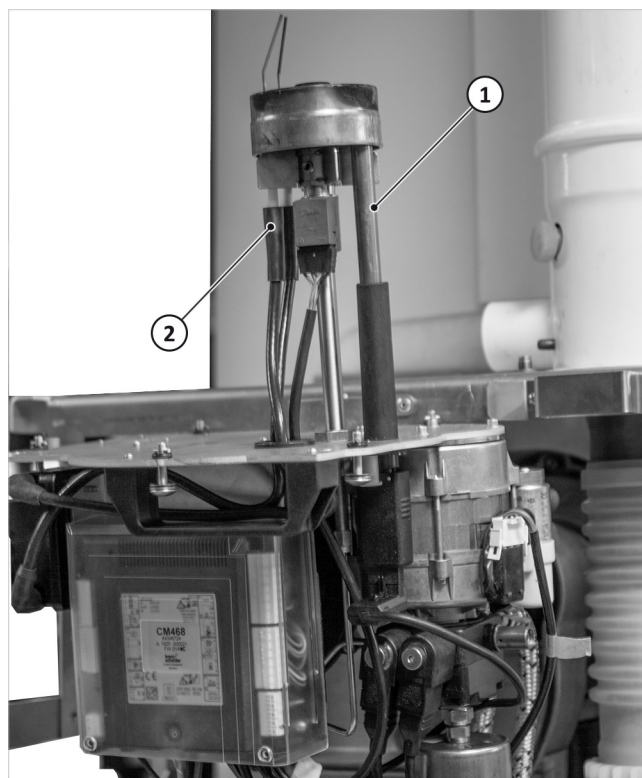

Fig. 141: Attaching the burner to the console
1. Remove the viewing sleeve; see → Fig. 141 (1).